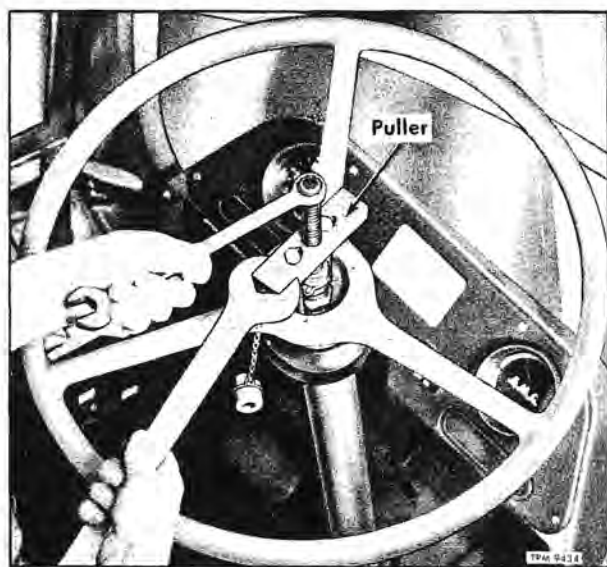

Figure 4—Removing Steering Wheel
2. Remove steering wheel retaining nut (4).
3. Puller screw holes are provided in wheel hub. Using steering wheel puller similar to that illustrated in figure 4, pull steering wheel off shaft.